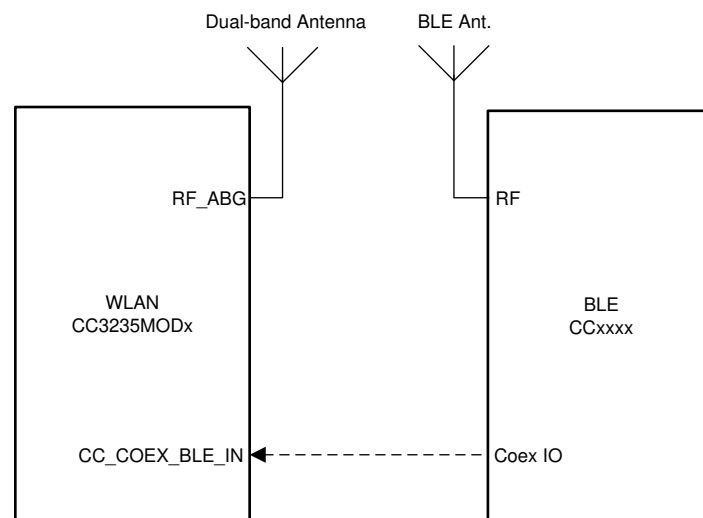

Figure 10-1. Dual-Antenna Coexistence Mode Block Diagram
- Dual-band Wi-Fi (see Figure 10-1)
Figure 10-1 shows the dual antenna implementation of a complete Bluetooth® low energy and WLAN coexistence network with the WLAN operating on either a 2.4- or a 5 GHz band. Note in this implementation a Coex switch is not required and only a single GPIO from the BLE device to the CC3235MOD device is needed. In addition, the CC3235MODx's antenna is external while the CC3235MODAx's antenna is integrated.